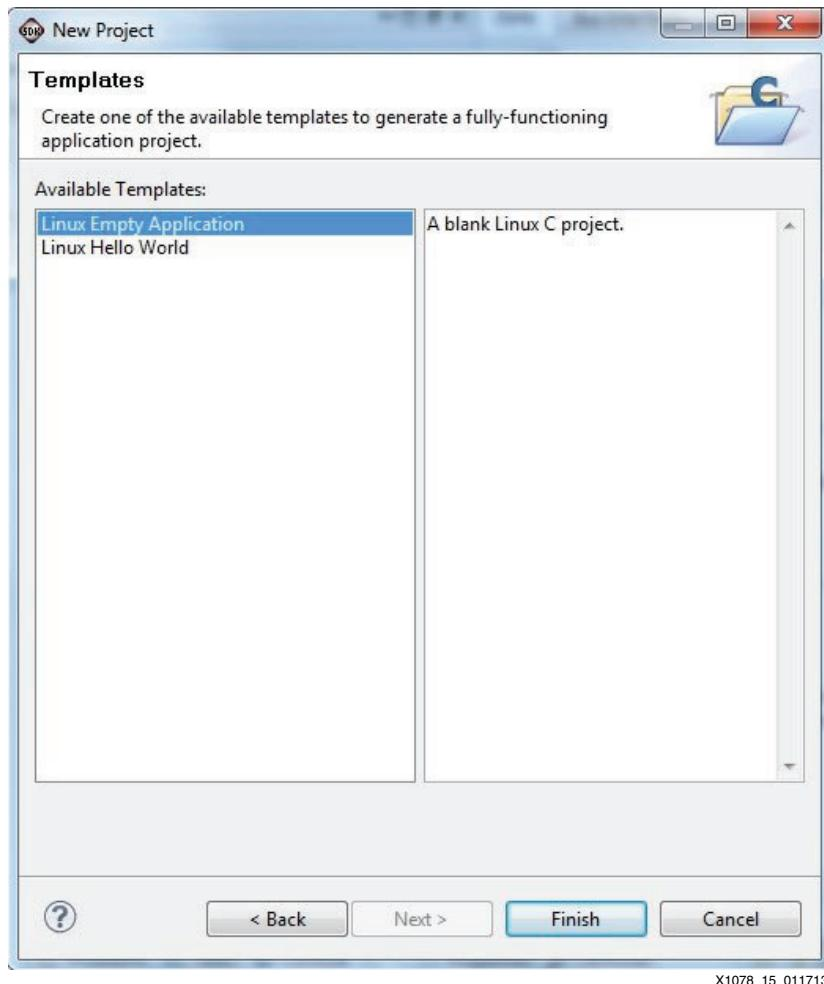

Figure 15: Linux Empty Application
- e. Select the **Linux Empty Application** template (Figure 15).